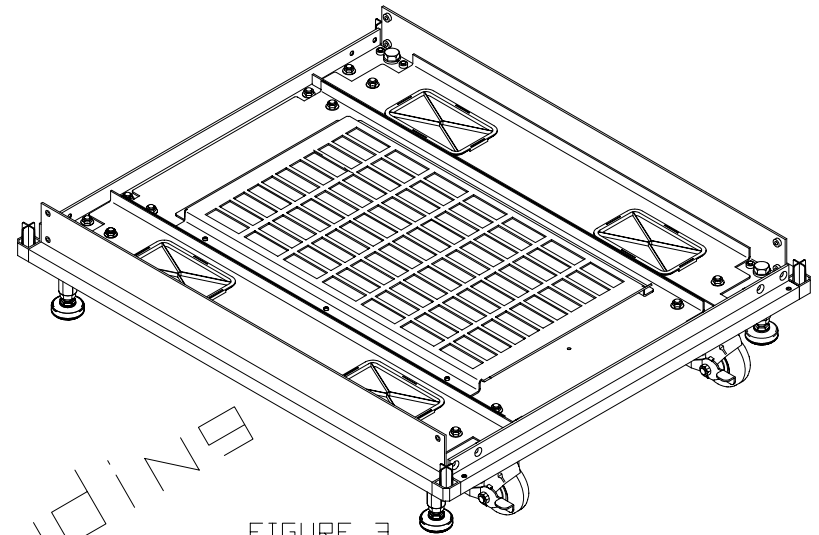

FIGURE 3
6. LAY IN FILTER PARTS AND FASTEN WITH HARDWARE PROVIDED OR WITH REMOVED CASTER HARDWARE, AS SHOWN IN FIGURE 3. IF CASTERS ARE NOT INSTALLED, USE 5/16-INCH SCREWS AND NUTS PROVIDED TO CLOSE EIGHT UNUSED CASTER MOUNTING HOLES.